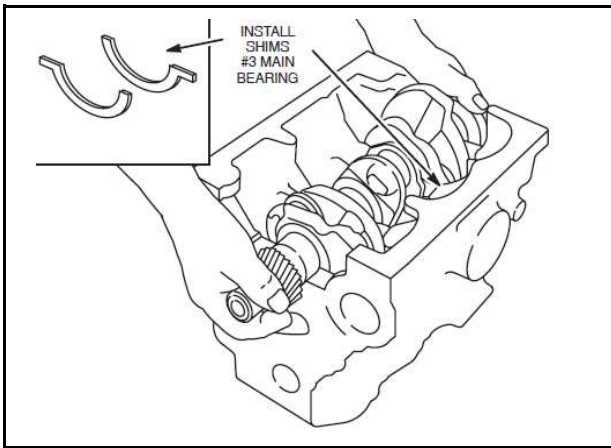

Fig. 3 - Installing Crankshaft
3. Install crankshaft with gear facing front of cylinder block, Fig. 3. Take care not to damage journals or bearings.